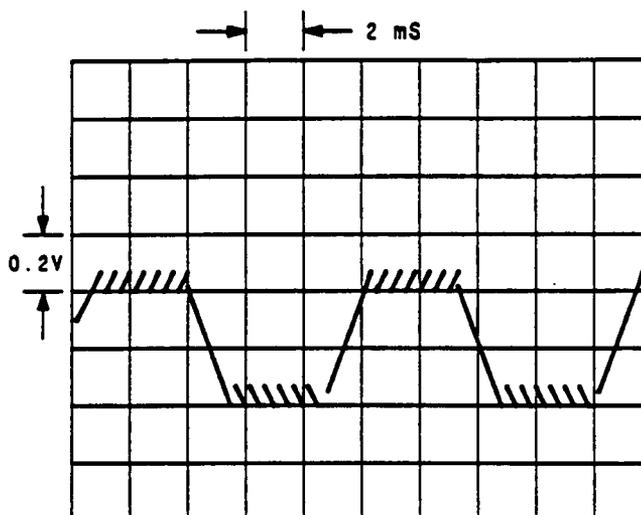

Figure 9. Oscilloscope Display of TP3 (dc Coupled), Signal Generator's Frequency 950 MHz, Modulation EXT FM 5 kHz Deviation (100 Hz Square Wave)
5. Connect the oscilloscope to A3TP3. If the waveform at TP3 is not the same as shown in Figure 9 go to Service Sheet 15.